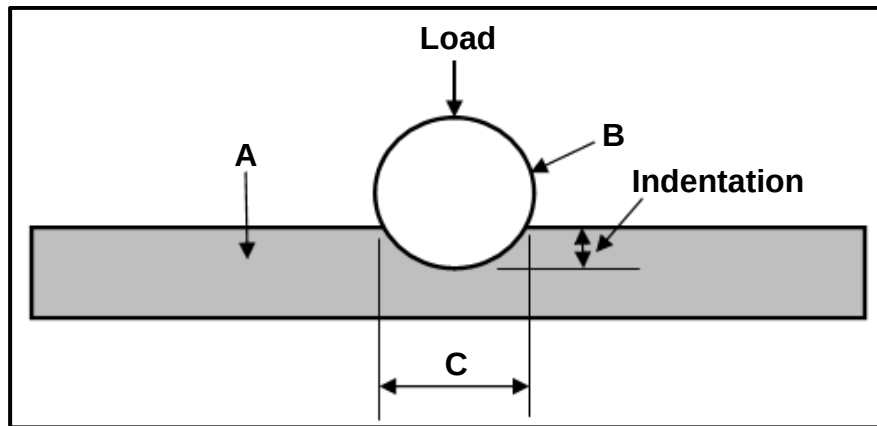

FIGURE 7.2
7.2 FIGURE 7.2 below shows a diagram of a Brinell hardness tester. Label A–C. (3)